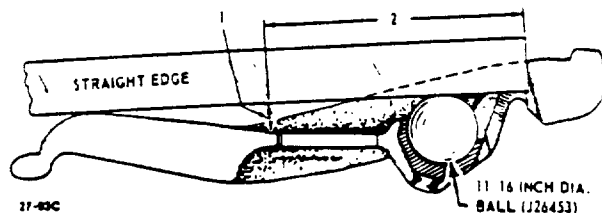

Figure 4-14. Checking Release Lever for Bend
5. Replace worn release levers, springs and ball seats. Check levers with a straight-edge and 11/16 inch ball (J26453) as illustrated, in Figure 4-14 and if bent so that dimension (1) is more 11/32 inch when measured at a point where distance (2) is 2-1/2 inch, replace the lever.